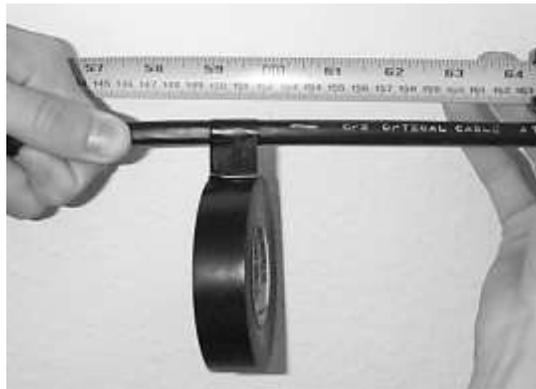

Figure 21 - Measure and mark the sheath opening at equal lengths from the reversal point.
6.10 Consult the splice closure instructions and determine the length of cable jacket that must be removed. Use the reversal point as the mid-point of the sheath opening and mark the outer edges of the sheath opening on the cable jacket (Figure 21).